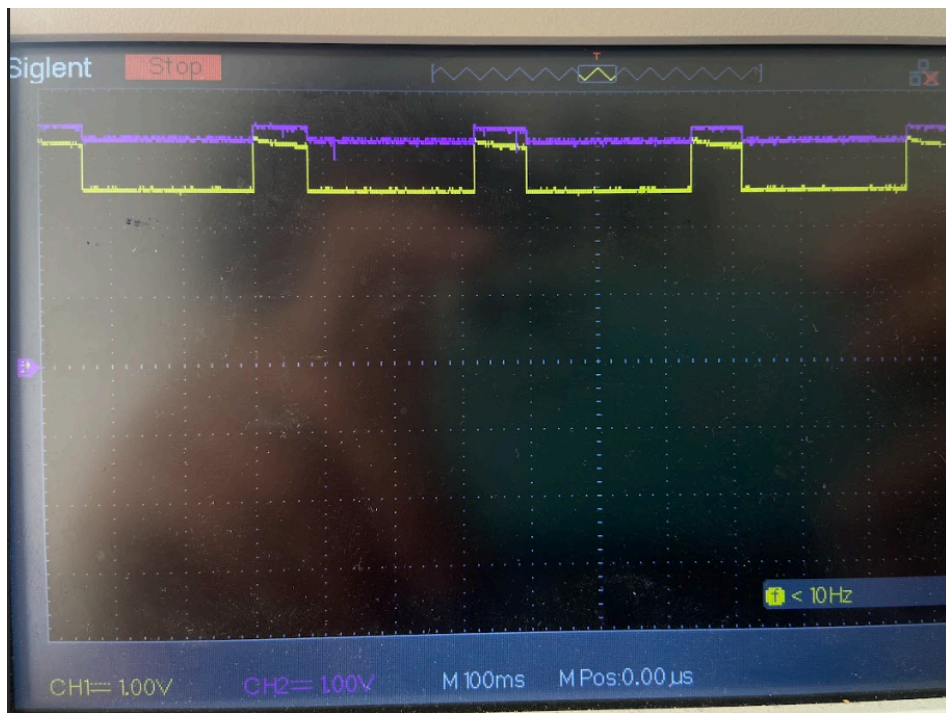

Figure 3
- In this section, Figure 3 illustrates the **PWM** signal waveform and the **Current variation** during high current consumption.